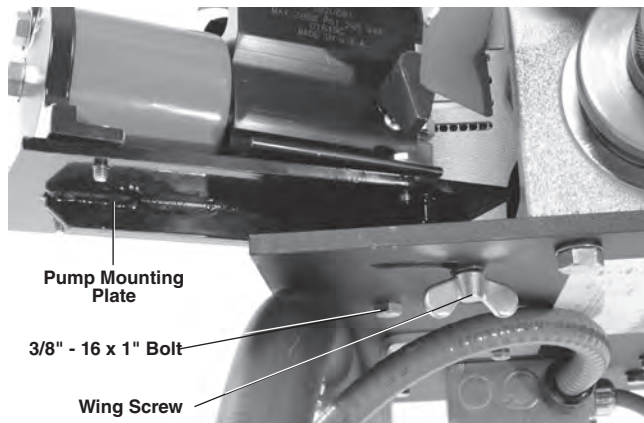

Figure 6 – Mounting Hydraulic Pump
7. Place the pump mounting plate over the hole and slot on the switch side of the 918-I. From the bottom of the base plate, insert the  $\frac{3}{8}$ " – 16 x 1" bolt with washer into the hole and screw into pump mounting plate (Figure 6).